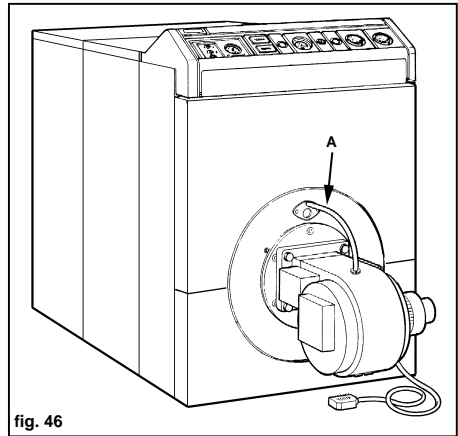

fig. 46
**32** (fig.46) Assemble the burner following the manufacturer's instructions. Connect a tube for cooling the boiler inspection window to the burner air intake (A).